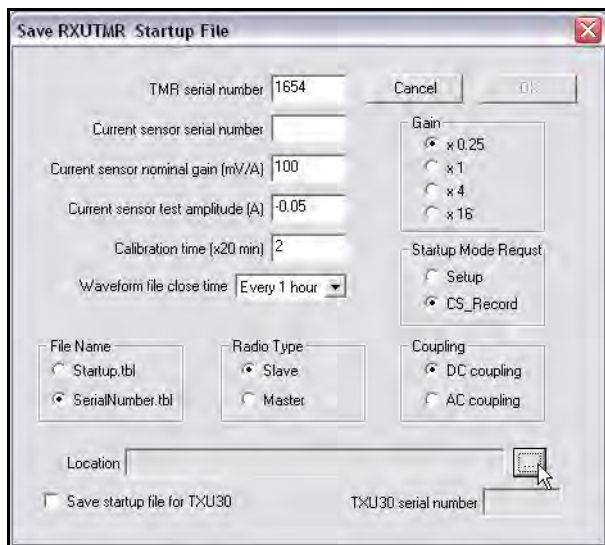

Fig. 3-12: The **Save RXUTMR Startup File** dialog box, with the mouse pointer on the **Location** ellipsis button.
The **Save RXUTMR Startup File** dialog box appears. (See Fig. 3-12.)
5. Click the **Location** ellipsis button (see Fig. 3-12) and navigate to the folder where you want to save the files.